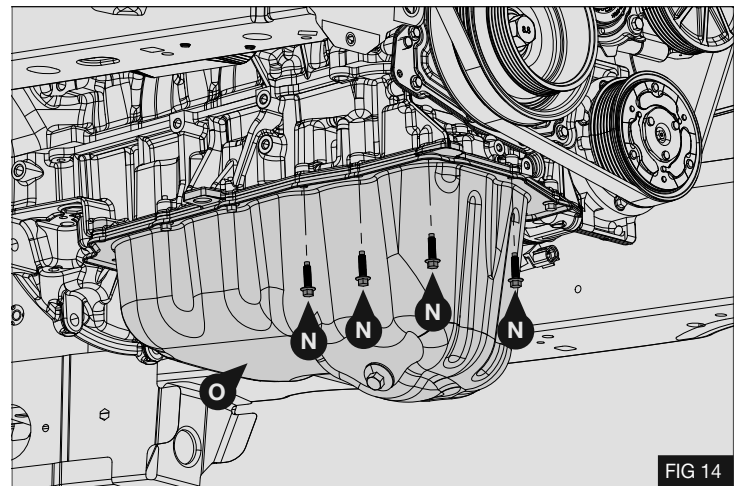

FIG 14
- Remove and discard the 4x bolts (N) from the oil pan (O). - Fig 14